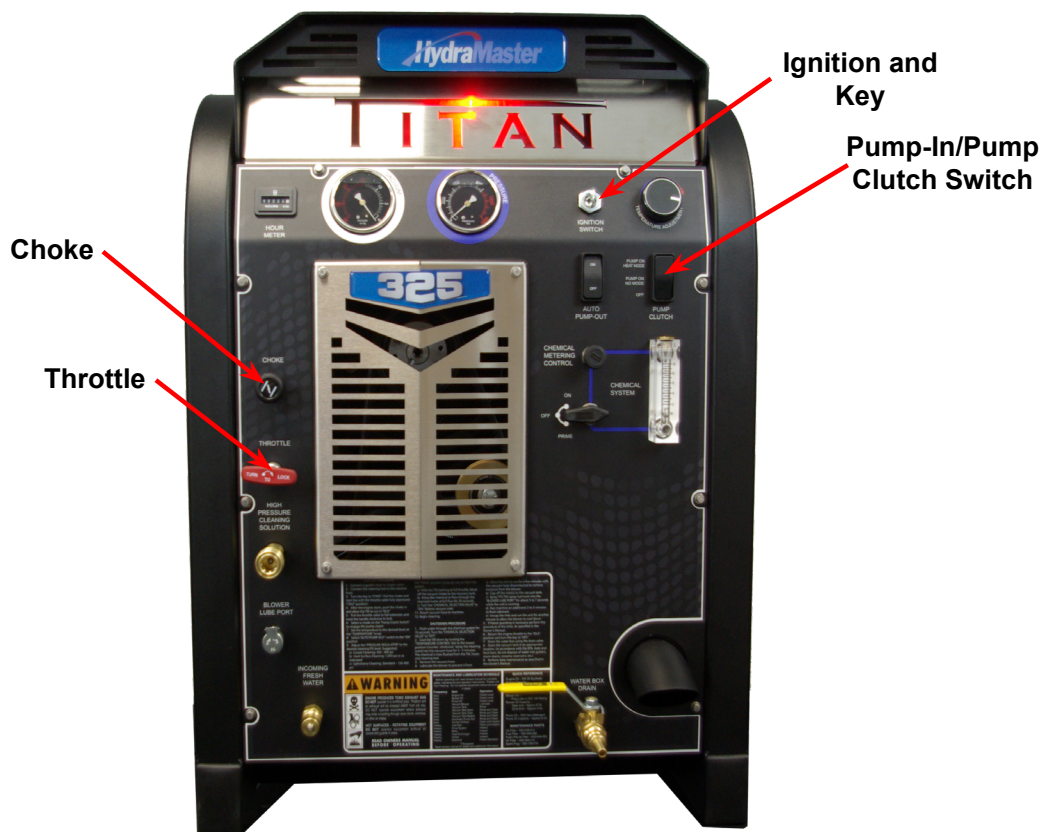

Figure 2. Location of Throttle, Choke and Pump-In/Pump Clutch Switch
1. Connect a garden hose to supply water to the truckmount. If used, turn the "PUMP-IN" switch to the "ON" position (see Figure 2).
3. Turn the key to "ON". Pull the choke and start the truckmount with the throttle cable fully depressed ("IDLE" position - see Figure 2).